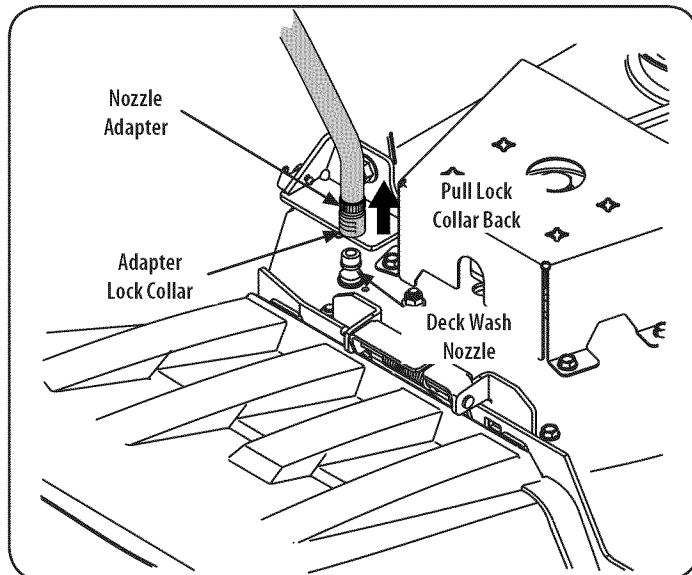

Figure 26
3. Pull back the lock collar of the nozzle adapter and push the adapter onto the deck wash nozzle at the left end of the mower deck. Release the lock collar to lock the adapter on the nozzle. Refer to Figure 26.